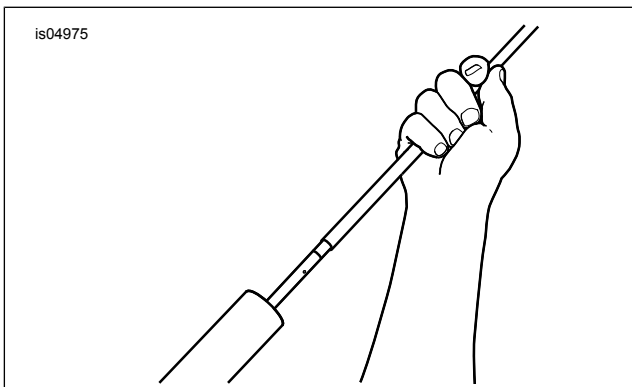

Figure 9. Pump Damper Rod Extension Tool
- a. See Figure 9. Thread extension tool onto end of damper rod.